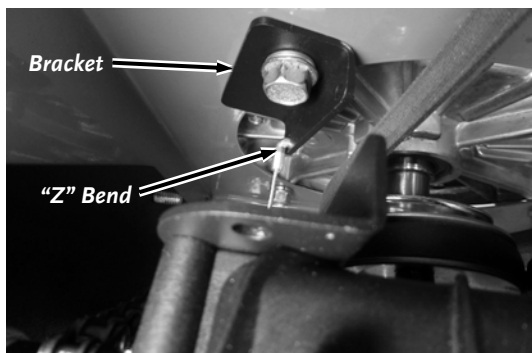

Figure 38
7. Disconnect the Z-bend end of the Drive Cable from the Bracket (Figure 38).
17. Reconnect the Z-bend end of the Drive Cable into the Bracket hole (**Figure 38**).